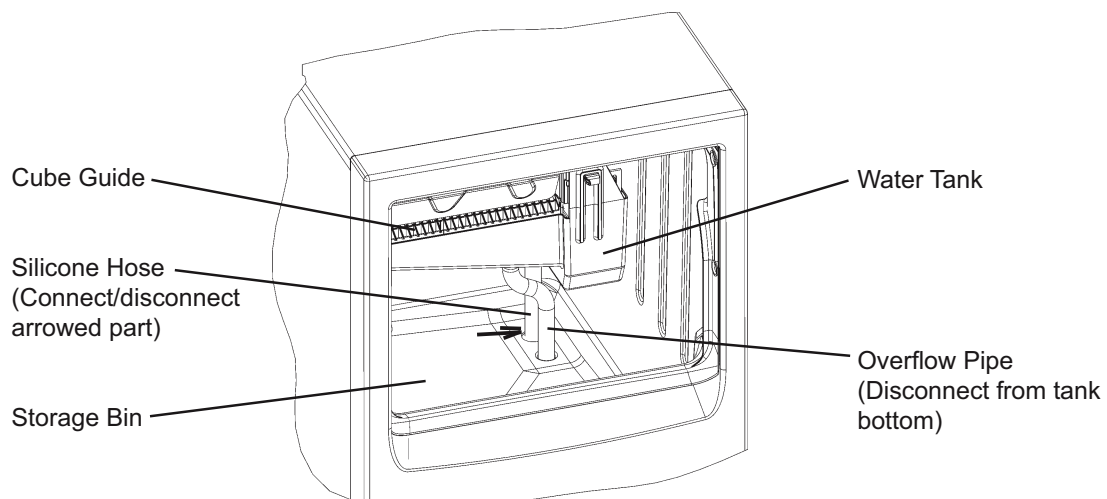

Fig. 25
- 4) Disconnect the Silicone Hose to drain the water. See Fig. 25. Reconnect the Silicone Hose back in its correct position after all of the water has drained.